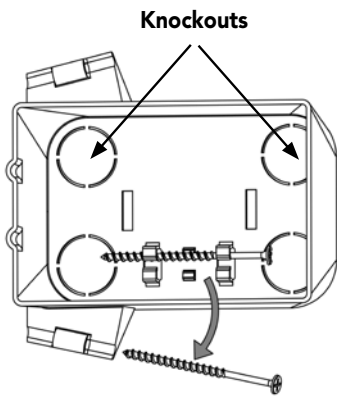

Figure 7
1. Remove the two screws from the interior clips of the junction box, and hand-screw them into the wings of the junction box (**Figure 7**).
2. Remove one of the four knockouts from the junction box (**Figure 7**). the resulting hole will allow routing of the 30-foot control cable or Duo cable into the junction box..